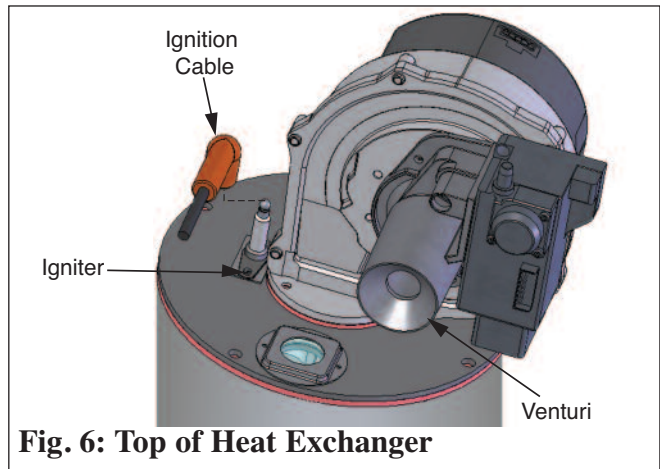

Fig. 6: Top of Heat Exchanger
2. Remove ignition cable and green ground wire from the igniter. (Fig. 6).